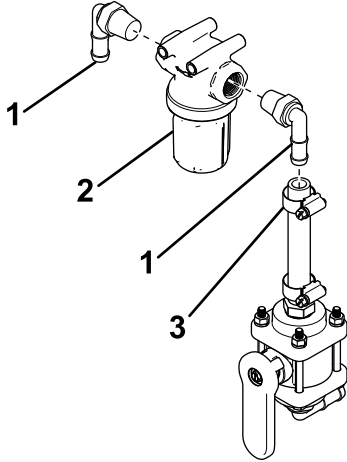

**Figure 34**
3. Install a 90° hose fitting onto the bottom of the ball valve (Figure 34).
4. Install a straight hose fitting onto the top of the ball valve (Figure 34).
- Secure the 9.5 cm (4-3/4 inches) hose to the straight hose fitting with a hose clamp (Figure 34).
5. Secure the 9.5 cm (4-3/4 inches) hose to the straight hose fitting with a hose clamp (Figure 34).